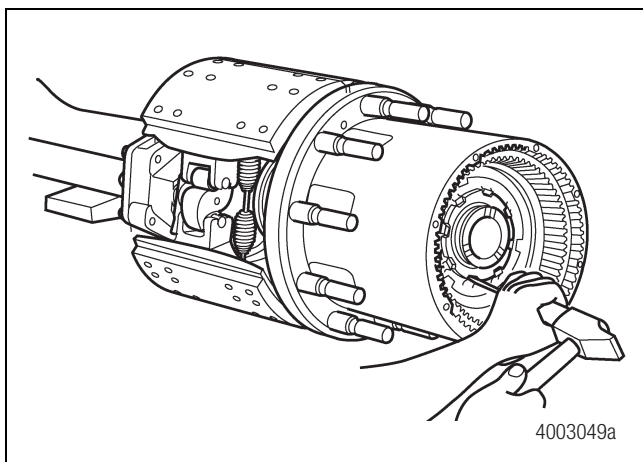

Figure 3.13
1. Bend back the two opposing tabs on the wheel bearing adjusting nut lock washer. Figure 3.13.